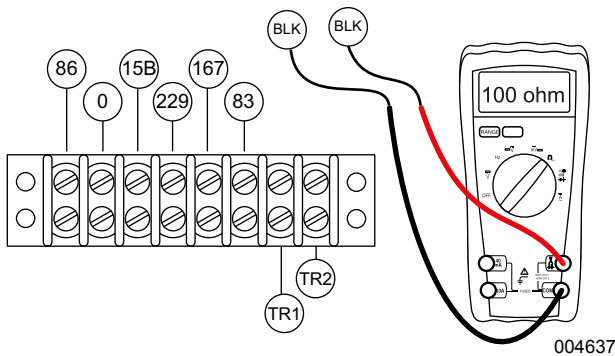

Figure 4-60. Check Idle Transformer Wiring
2. See **Figure 4-60**. Remove the two idle control transformer (ICT) wires from terminal block 1 (TB1).